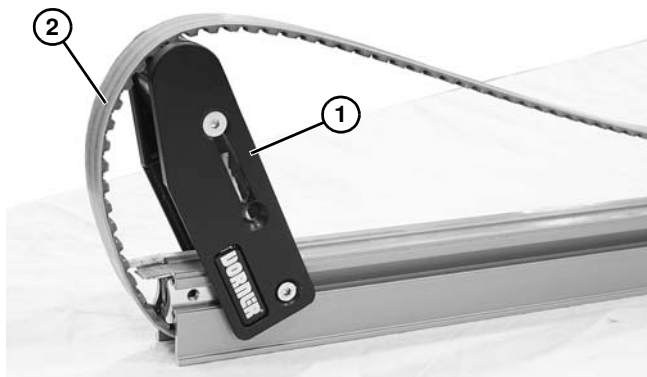

Figure 49
2. Tip head plate assembly (Figure 49, item 1) up and remove belt (Figure 49, item 2).